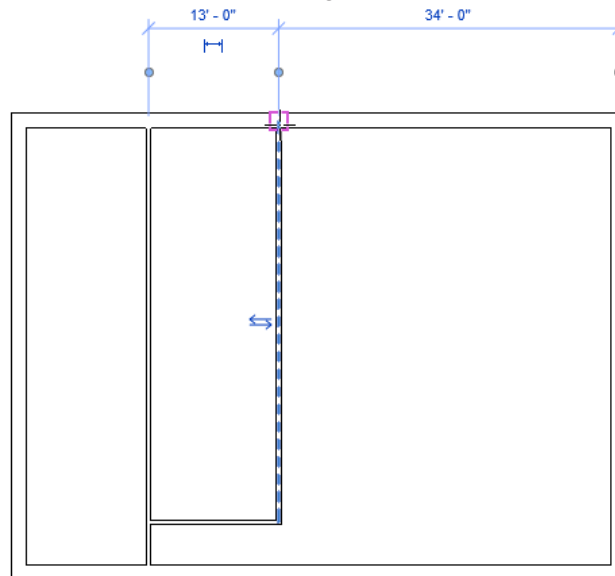

Figure 3-84 Created wall is extended to the upper exterior wall
5. Now, click on the wall you just created and move the cursor vertically upward and click on the upper external wall, as shown in Figure 3-84.